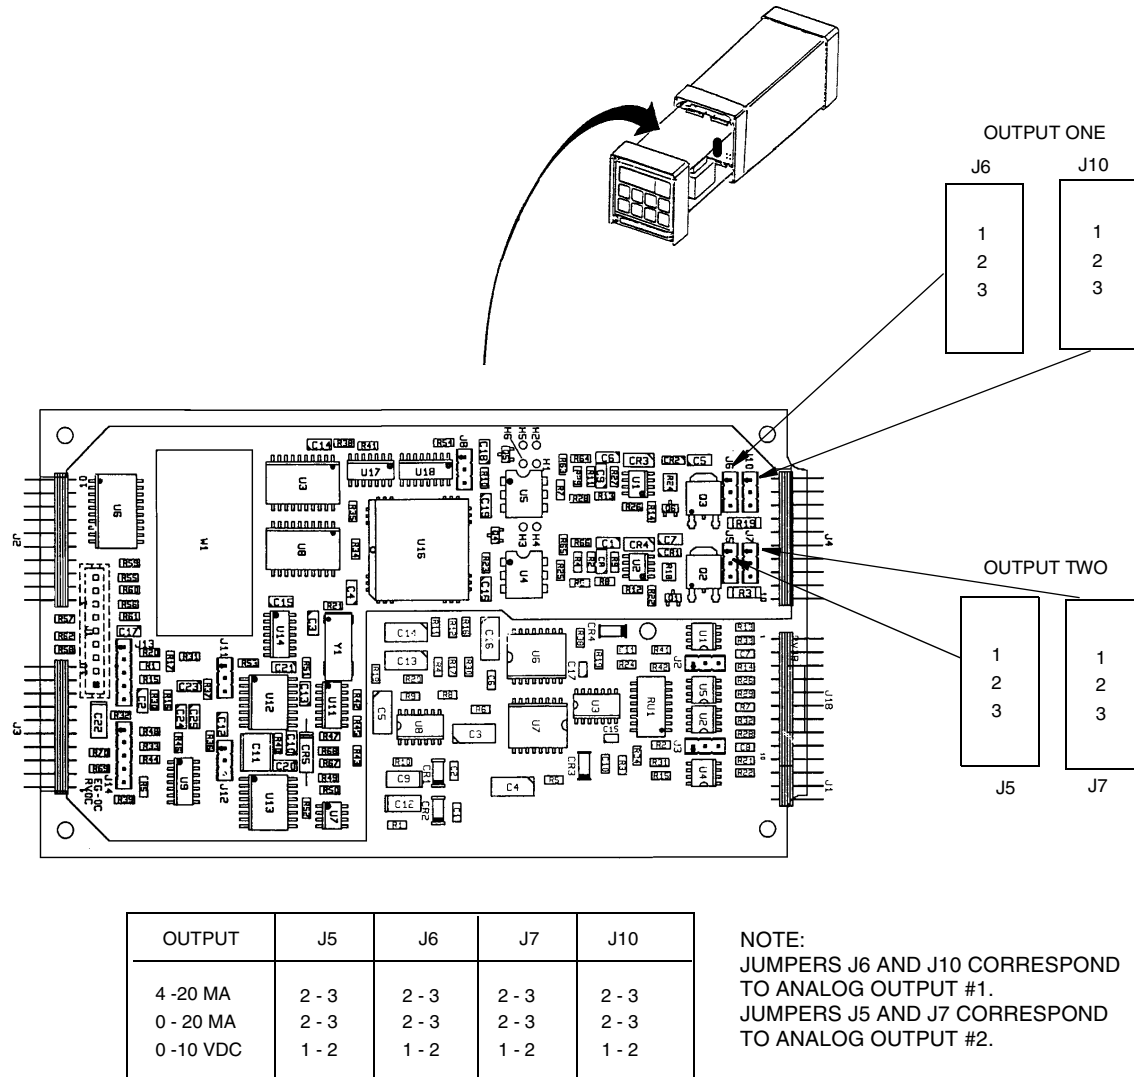

Figure 21. Jumpers for Changing Analog Output
4. Refer to Figure 21 to identify jumper locations.
On the plastic version, a string must be rigged through the loop in the ribbon cable such that when the board assembly is slid into the housing, the string/ribbon cable may be pulled back simultaneously, thus preventing damage to the cable. See Figure 21.